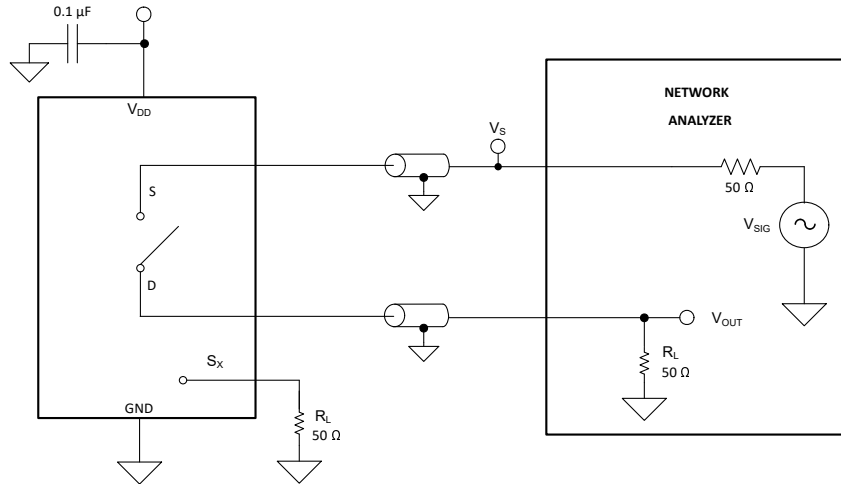

Figure 6-9. Off Isolation Measurement Setup
Off isolation is defined as the ratio of the signal at the drain pin (D) of the device when a signal is applied to the source pin (S_x) of an off-channel. Figure 6-9 shows the setup used to measure, and the equation to compute off isolation.